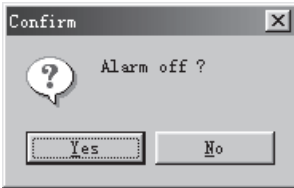

Fig. 7.5 Alarm Off
B) Alarm Off: Double click the **top of the record** to cancel the alarm. Then click **“Yes”** in the dialogue block shown at the same time, as in Fig. 7.5.